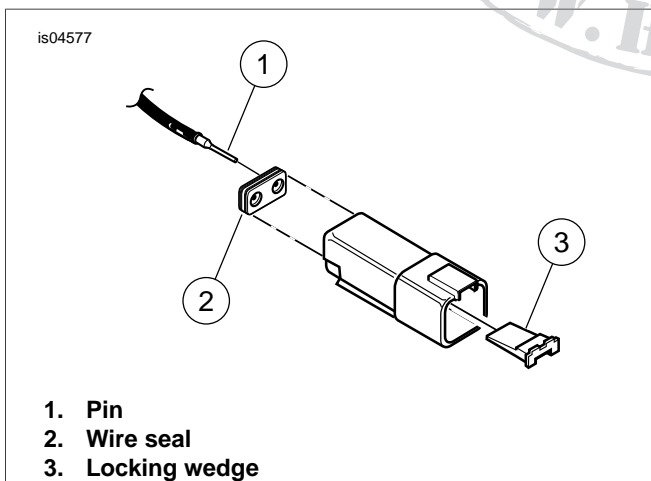

Figure 4. Deutsch Connector Pin Side (2-pin connector shown)
5. See Figure 4. Remove the secondary locking wedge (3) from the pin side of the connector with a needle nose pliers.